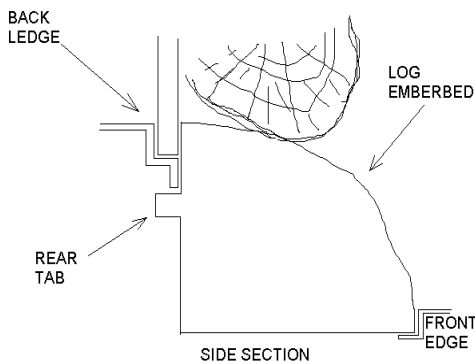

FIGURE 5
3. Pull rear edge of ember bed up and forward by grasping ember bed by the sides (handle the logset only by the emberbed and not the logs) and pulling solidly until the rear tab pops out from under the back ledge, then lift out. (FIGURE 5)
7. Replace the log by inserting front edge and under back ledge (FIGURE 5) and the logs are resting against mirror.